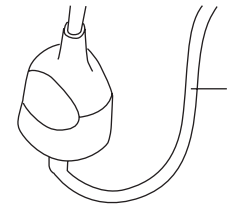

Fig. 22
3. Connect the power cord (7) to the socket of the extension cord. (Fig. 22)